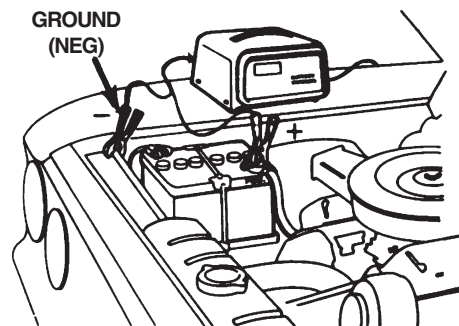

FIGURE 2: CONNECTION TO NEGATIVE GROUNDED BATTERY
5. For a negative-grounded vehicle, connect POSITIVE (RED) clamp from battery charger to POSITIVE (POS, P,+) ungrounded post of battery. Connect NEGATIVE (BLACK) clamp to vehicle chassis or engine block away from battery. Do not connect clamp to carburetor, fuel lines, or sheet-metal body parts. Connect to a heavy gage metal part of the frame or engine block. (Figure 2)